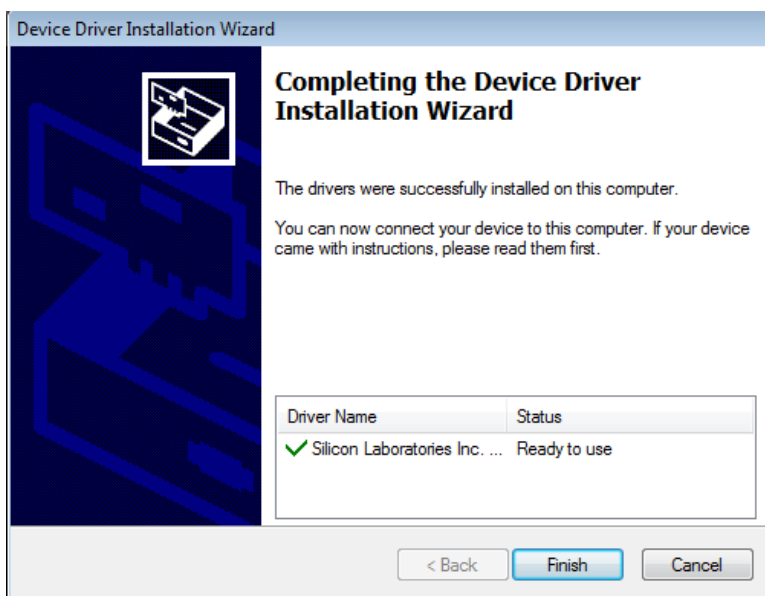

Figure 4: Driver Set-Up Success
4. Wait for the status screen to verify that installation is complete (see Figure 4).